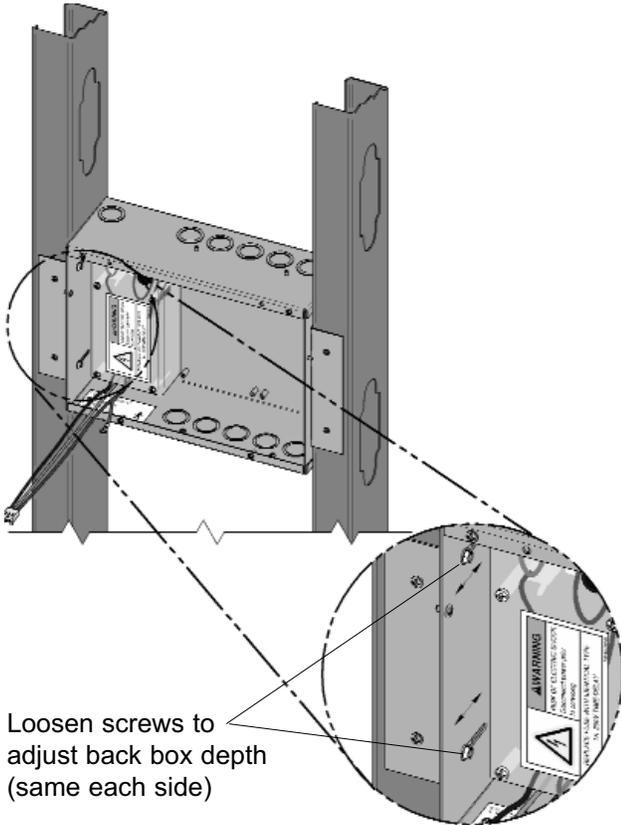

Figure 17: Mounting Bracket Adjustment
3. Mounting brackets on each side of back box are adjustable and factory preset for 5/8" thick drywall. After drywall installation, front edge of back box should be flush with finished surface of wall. If needed, make any necessary bracket adjustments at this time (Figure 17).